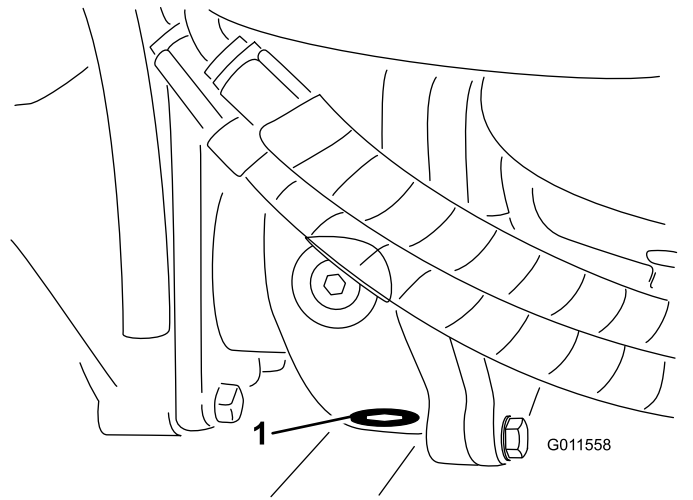

Figure 92
5. Clean the area around the drain plug on the bottom of the gear box (**Figure 92**).